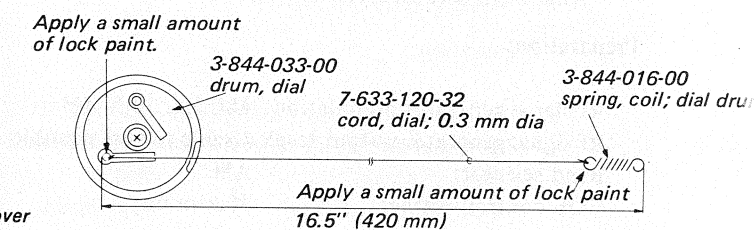

Fig. 2-3.
2. Make dial cord ass'y as shown in Fig. 2-3 below.